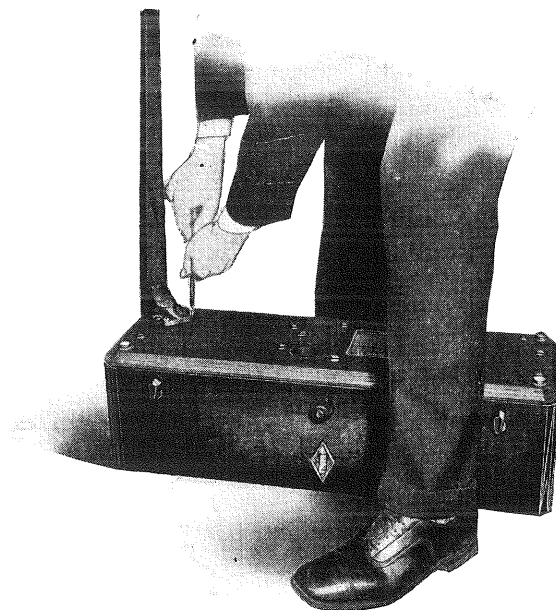

Figure 8—Placing legs on cabinet
- (a) Place Radiola 33 upside down on a soft blanket or rug in a place convenient for work, Figure 8.
(7) REFINISHING MARRED SURFACES